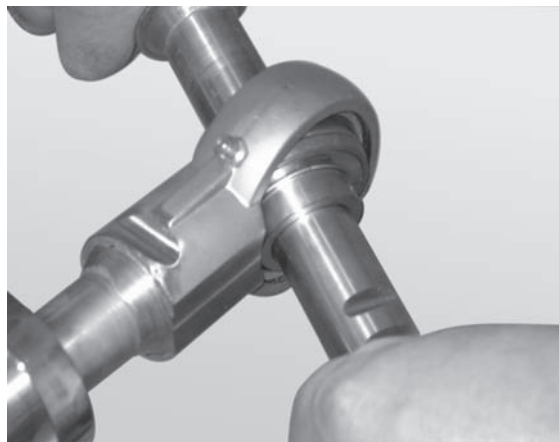

Figure 88
2. Insert the rod end of a second bearing shaft through the bearing (**Figure 88**).